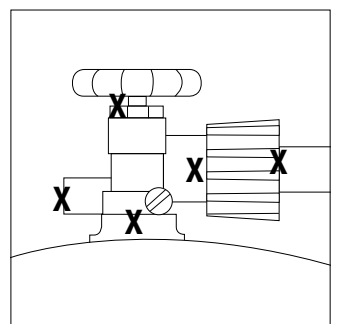

Figure 3
- Make sure control knobs are in the "OFF" position (Figure 3).